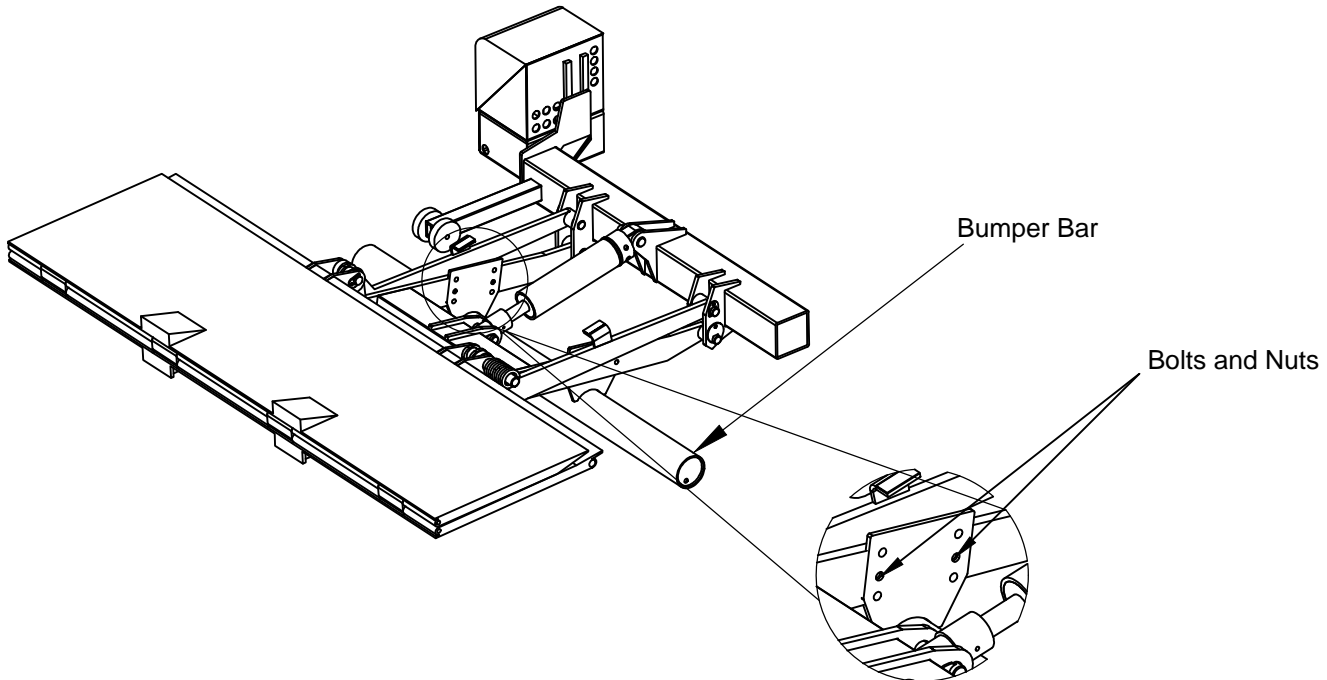

Figure 2: Bumper bar hardware removal.
Note: If your gate has a bumper bar installed, lower the liftgate to the ground and then replace the four (4) 1/2-13" x 1-1/2" bolts with provided 1/2-13x2" bolts (Figure 2).